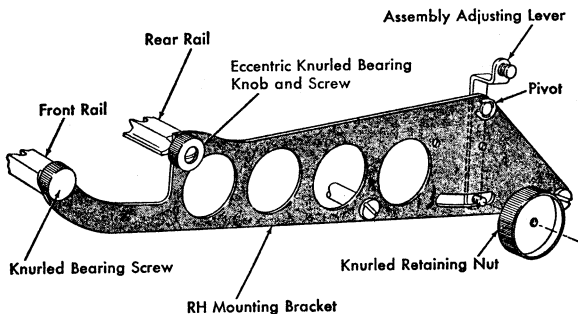

Figure 2. Mounting Bracket Adjustments
1. AUXILIARY CARRIAGE ALIGNMENT. The upper frame of the auxiliary carriage is aligned by means of the adjusting levers on both mounting brackets. Adjust so the auxiliary carriage is not jammed in its guides on its travel from extreme right to extreme left position (Figure 2).
2. ECCENTRIC KNURLED BEARING KNOB AND SCREW. Adjust to raise or lower the Hektewriter attachment so that the typed characters are centered on the ribbon at both ends of the carriage (Figure 2). Characters must have correct "even top and bottom" after making this adjustment.